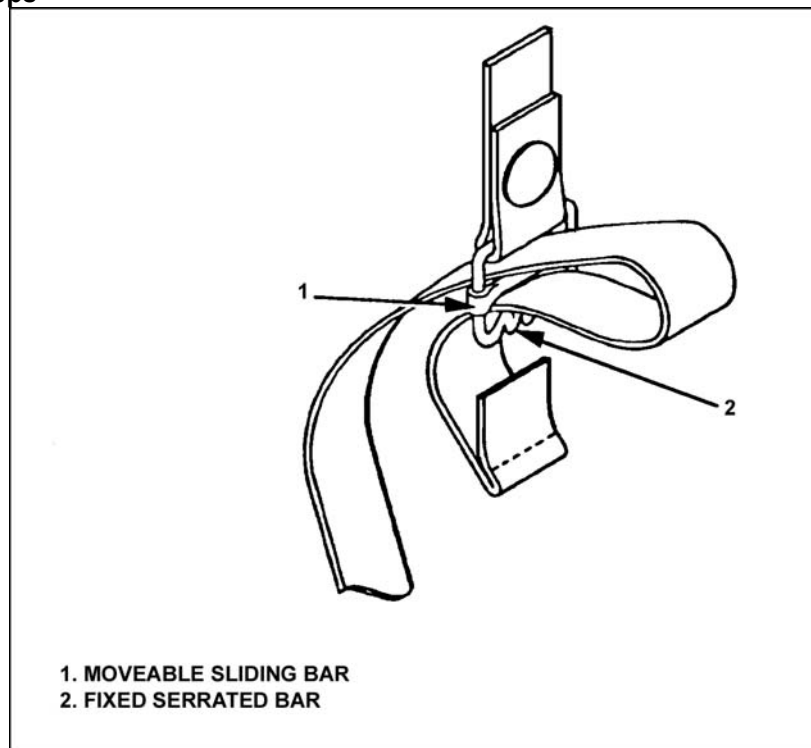

Figure 2. Lacing the sliding bar buckles.
- (1) Thread the strap from the inside of the buckle over the moveable sliding bar. Thread the strap back through the buckle, but this time, thread it under the sliding bar and over the serrated part of the buckle (Figure 2).